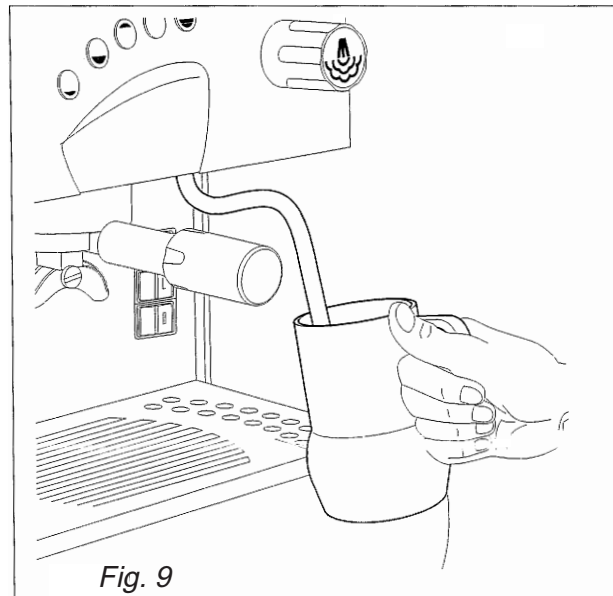

Fig. 9
8.2. Preparing cappuccino (Fig. 9)
Place the receptacle under the hot water spout and use the dispensing control according to the model (Fig.9). When the desired quantity has been obtained turn off the switch.